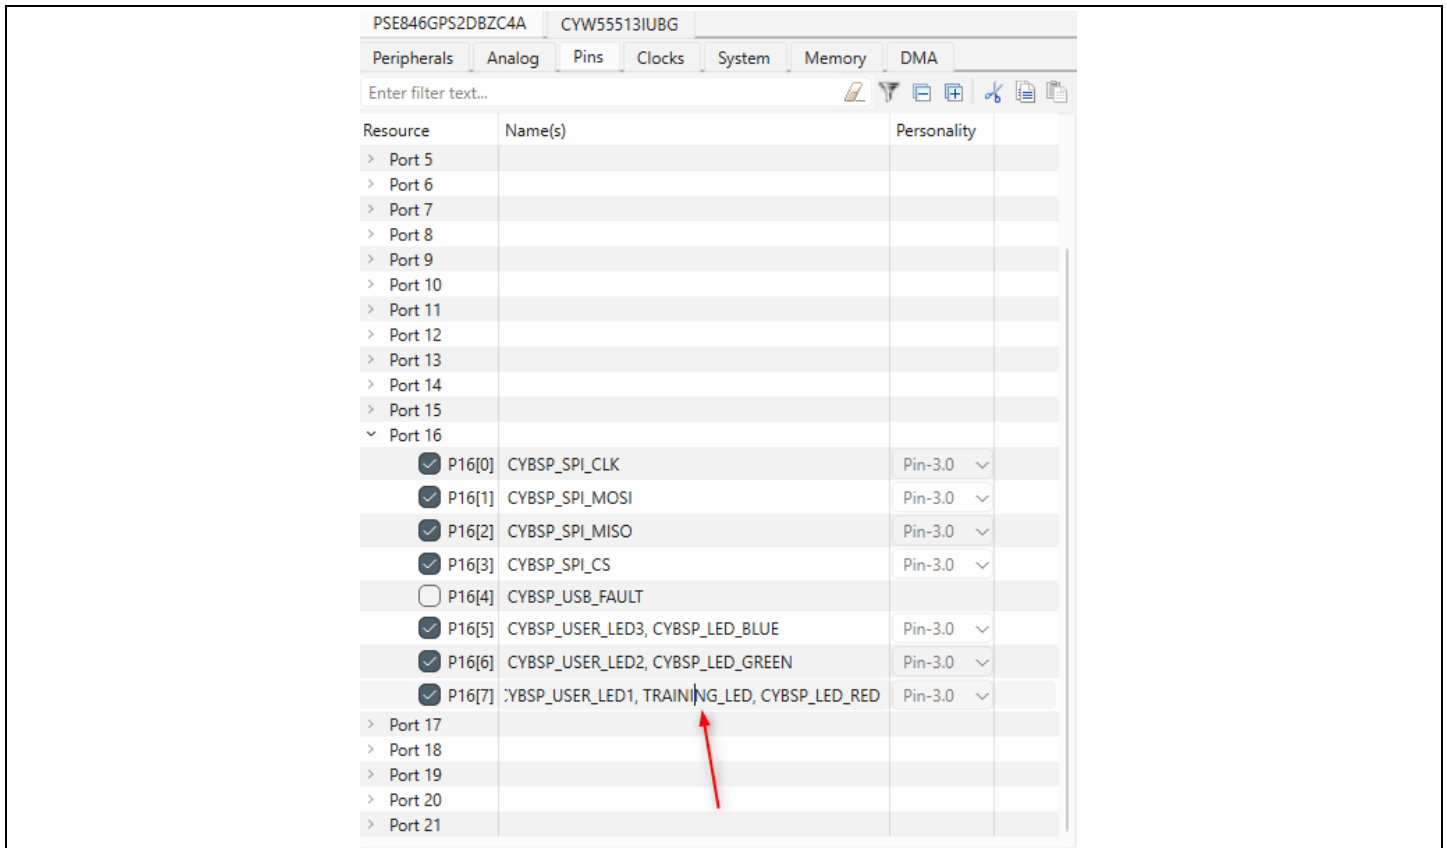

Figure 20. Device Configurator - Pins – Creating Alias for USER_LED1
14. For example, in Figure 20. Device Configurator - Pins – Creating Alias for USER_LED1 we have renamed Port 16 Pin 7 as TRAINING_LED. We will be using this LED in our application. Go to **File > Save** or alternatively hit **Ctrl+S** to save the change.